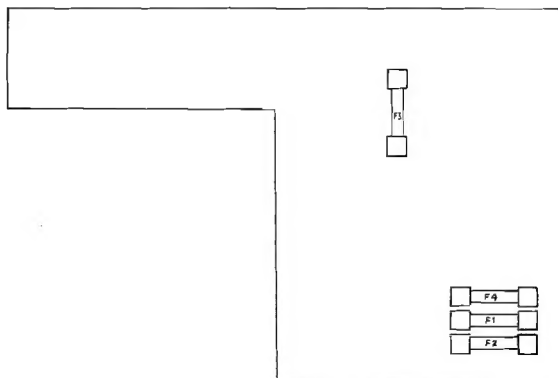

Figure 2
c) Are the fuses intact? There are five fuses (not counting the monitor fuses which are detailed in the monitor manual for this game). One fuse is located on the AC junction box. The other four are on the power supply PC board. See figure 2.